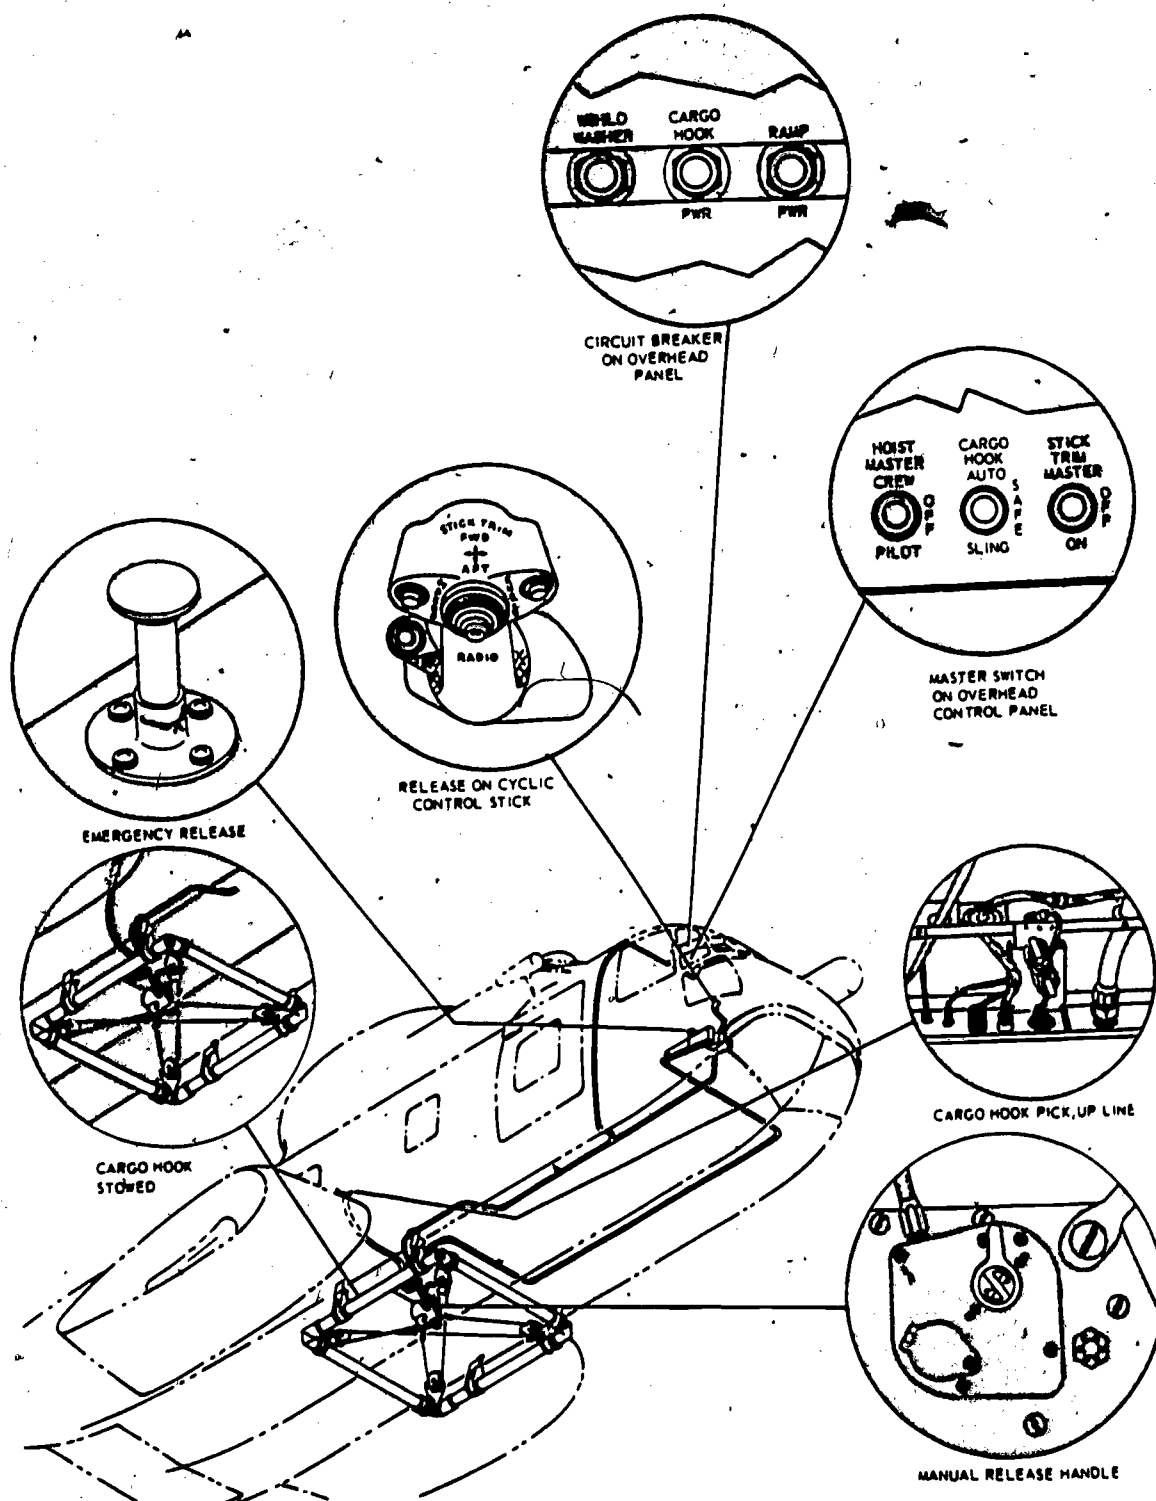

Figure 31. - Cargo sling system, low response.
The low response external cargo sling (figure 31) permits carrying loads up to 8,000 pounds beneath the helicopter. The sling is made up of universal sling fittings, cables, cargo hook, pulleys, and a suspension frame. The sling is attached to four hard points on the bottom of the helicopter by four universal sling fittings. The fittings, in turn, are attached to a suspension frame, which contains a pulley in each corner. Two cables are threaded through the pulleys which support the cargo hook. Each cable picks up a suspension ring on the cargo hook, is threaded through a pulley, passed diagonally below the tub and threaded through the opposite pulley, and then attached to the opposite suspension ring. This suspension permits the hook to swing independently of the helicopter in any direction. The path of the hook during its swing is elliptical; therefore, the line of reaction of the load is perpendicular to a tangent on the elliptical path. This line of reaction passes through the helicopter between the floor and the center of gravity and eliminates undesirable aircraft responses.
A switch, marked CARGO HOOK, located on the overhead switch panel (figure 31) controls the operation of the cargo sling hook. The switch has marked positions AUTO, SAFE, and SLING, and should be kept in the SAFE position during flight to prevent accidental discharge of the cargo by gusts or conditions that would lighten the load force. The SLING position energizes the thumb switches on the pilot's and copilot's cyclic stick grips, marked CARGO. This enables the pilot or copilot to electrically release the load on the sling. The cargo sling master switch should be in the SLING position during cargo hookups and until a safe altitude and airspeed are reached, to allow for quick release of the external load in the event of an emergency. The AUTO position energizes the cargo release switches, and also a touchdown switch on the cargo hook. The touchdown switch, activated by load tensions greater than 125 ± 10 pounds, will automatically release the load when the load touches the ground and the load tension on the hook becomes less than 100 pounds. After an AUTO cargo release, the CARGO HOOK OPEN light will blink continuously until the switch is positioned to SAFE. Although the automatic touchdown release is set to actuate at 100 pounds or less, it should not be used with loads less than 200 pounds. The master switch should always be returned to the SAFE position and sling stowed after the load has been released. The master switch receives electrical power from the DC primary bus through a circuit breaker, marked CARGO HOOK PWR, located on the overhead circuit breaker panel.
- c. Cargo hook switch - SLING. (See figure 31.)